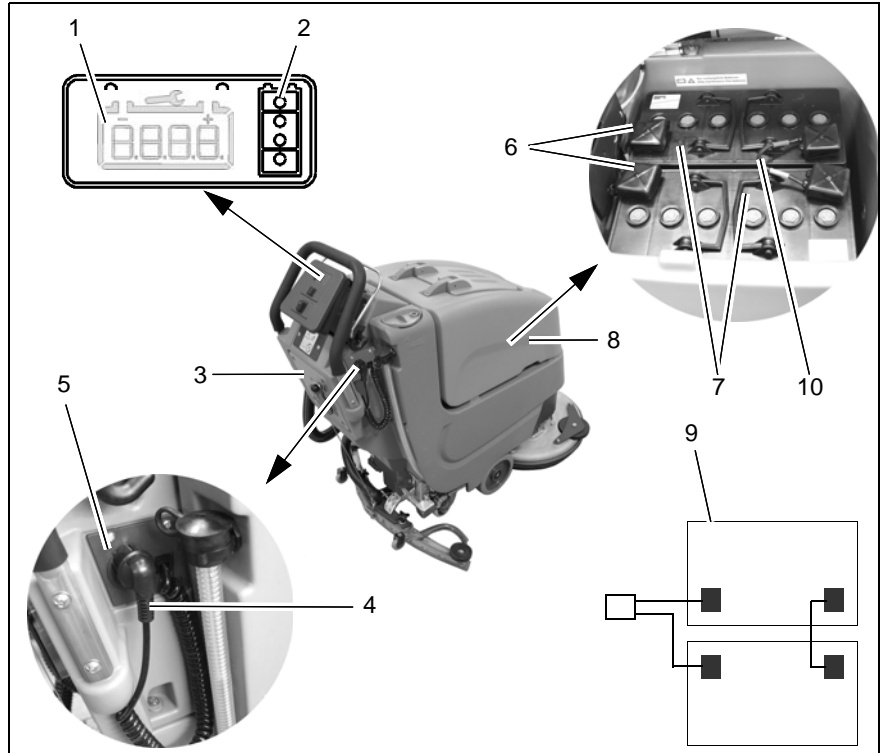

Fig.12
Before charging the battery, wait until at least one charge status indicator bar has extinguished after operating the machine. The battery is charged by the integrated on-board charger (Fig. 12/3):
2. Remove the power plug (Fig. 12/4) from its receptacle on the right-hand side.
Charging will start automatically. The charge mode indicator (Fig. 12/2) shows the progress. Pay attention to
You cannot turn on the machine while charging. The machine will not be ready to operate until the power plug has been returned to its receptacle (Fig. 12/5)
Check the indicator field (Fig. 12/1) for the current charge status of the batteries during operation. The charge status indicator is connected to a total discharge signal transducer (TSG) in the machine control unit. Four segments on the display are indicative of the batteries being fully charged. The segments extinguish one by one as more power is drawn from the batteries. At the discharge limit, the battery icon starts to flash and the TSG turns off the cleaning functions to prevent total battery discharge (machines with a traction drive can still be moved at reduced speed). Charge the batteries immediately!